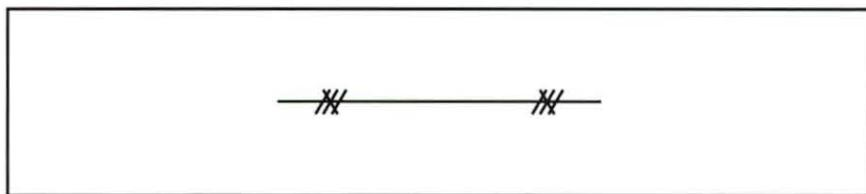

Figure 9. Line Symbol
5. Identify the line symbol shown in figure 9.